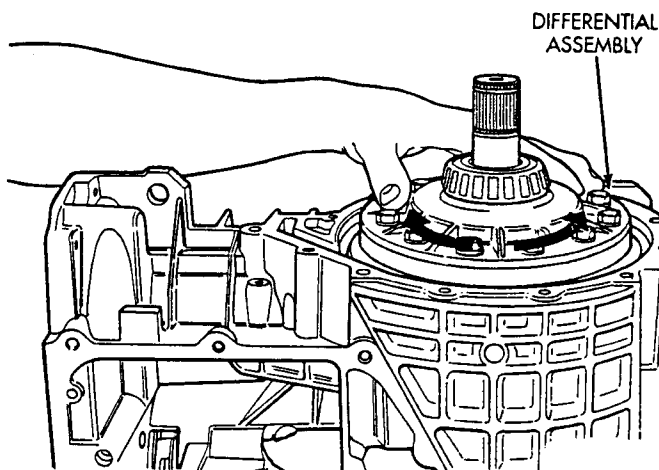

Fig. 40 Rocking Ring Gear Back and Forth
(45) Transfer shaft to ring gear backlash should be 0.006" to 0.009" thousands of an inch. To get the backlash close enough to measure, perform the following steps. Hold the transfer shaft with one hand and rock the ring gear back and forth (Fig. 40). You should feel some backlash between the gears. If no backlash is felt use special tool 6502B to turn the inner adjuster so that it raises the differential assembly. This will increase backlash. If there is too much backlash, use special tool 6502B to turn the inner adjuster so that it lowers the differential assembly. This will decrease backlash. Recheck the backlash after each adjustment.